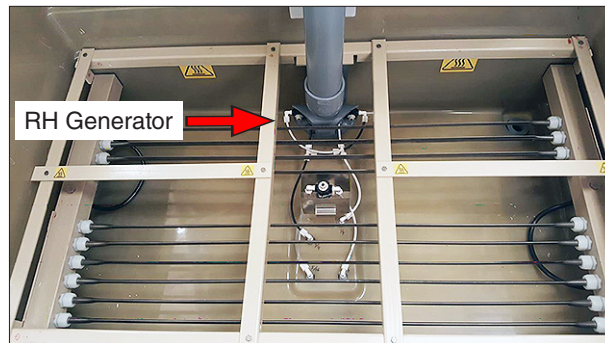

Figure 8.14b: RH generator under diffuser plates (removed).
8.14. Relative Humidity (RH) Generator (Nov 2021)
- The RH generator is located at the center rear of the chamber under the diffuser plates at the base of the vent tube (Figure 8.14a, Figure 8.14b).